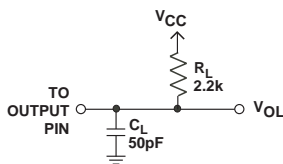

Figure 1a Load Circuit for $\overline{\text{BUSY}}$ Timing Diagram
⁵This is measured with the load circuit of Figure 1a.
- ⁵This is measured with the load circuit of Figure 1a. Specifications subject to change without notice.